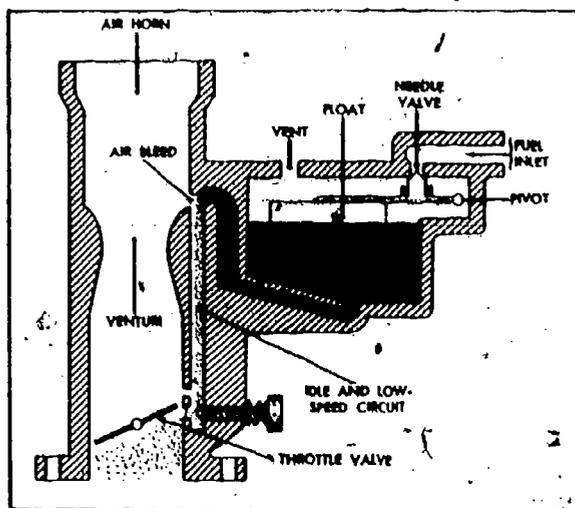

Fig 2-12. Carburetor schematic.
- (4) Carburetor (fig 2-12). Flow of fuel entering a gasoline engine must be metered to control engine speed and to obtain efficient operation. The fuel must also be mixed in proportion with the air to insure complete combustion. Metering and mixing are performed in the carburetor. There are circuits (passages) in a carburetor that function to vary the air-fuel ratio. These circuits are: float, low-speed, high-speed, accelerating pump, and choke. Engines used in engineer equipment may not have the accelerating circuit in the carburetor. Such engines are run at a continuous speed and do not need the extra fuel for accelerating. Fuel flows through the needle valve into the float chamber where it is controlled by the float circuit. As the fuel level rises in the float chamber, the float rises and forces the needle valve to its seat causing the flow of fuel to stop. The fuel in the chamber will enter the passages and fill them to the float level. These passages open into the venturi or at the throttle valve. The venturi is a partial restriction in the air horn which causes the air flow to speed up and create a partial vacuum. A butterfly valve above or below the venturi will change the action of the air flow. If it resists the flow of air more than the venturi, the velocity of the air will be greatest at that point. If the throttle valve in figure 2-12 was vertical, the flow of air rushing past the air bleed would be sufficient to cause the fuel to be sprayed down; this would be the high-speed circuit. But with the throttle valve closed, the air restriction is below the venturi and the vacuum is created at the throttle valve. The decreased volume of air and the restricted fuel opening will allow sufficient fuel to be sprayed down into the engine for the idling circuit. During cold weather, more fuel is required for cranking. To increase the fuel in the mixture, a choke (butterfly valve) circuit (not shown) is added above the venturi. The vacuum created and the atmospheric pressure through the float chamber forces the fuel out into the venturi and through to the engine. By restricting the fuel passages to the air stream you can change the amount of fuel that will be mixed with the air. A restriction in the air stream or any leaks between the carburetor and the combustion chamber will also affect the air-fuel ratio.